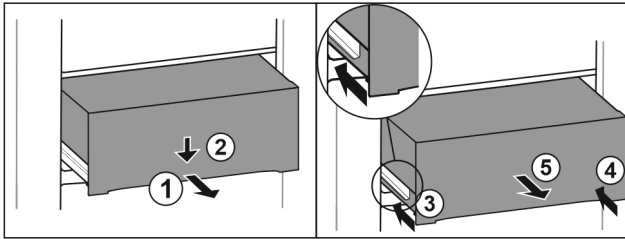

Fig. 203
- ▶ Pull out drawer half-way. Fig. 203 (1)
- ▶ Push the drawer down at the front. Fig. 203 (2)
- ▶ Push the left rail in by about 2 cm. Fig. 203 (3)
- ▶ Push the right rail in by about 2 cm. Fig. 203 (4)
- ▶ Remove drawer to the front. Fig. 203 (5)